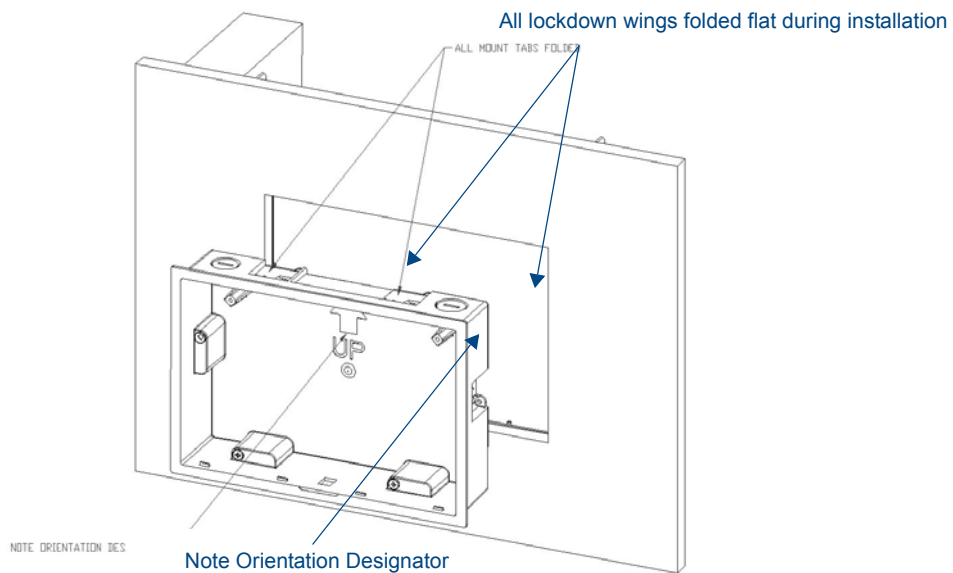

FIG. 11 Installation of plastic conduit box
4. Slide the plastic conduit box into the hole, being careful not to twist or pinch the cable, and set it flush with the wall (FIG. 11). Make sure that all of the lockdown wings are folded into their slots before attempting to insert the box. For ease of installation, the inside of the box has the direction "UP" labeled for reference.